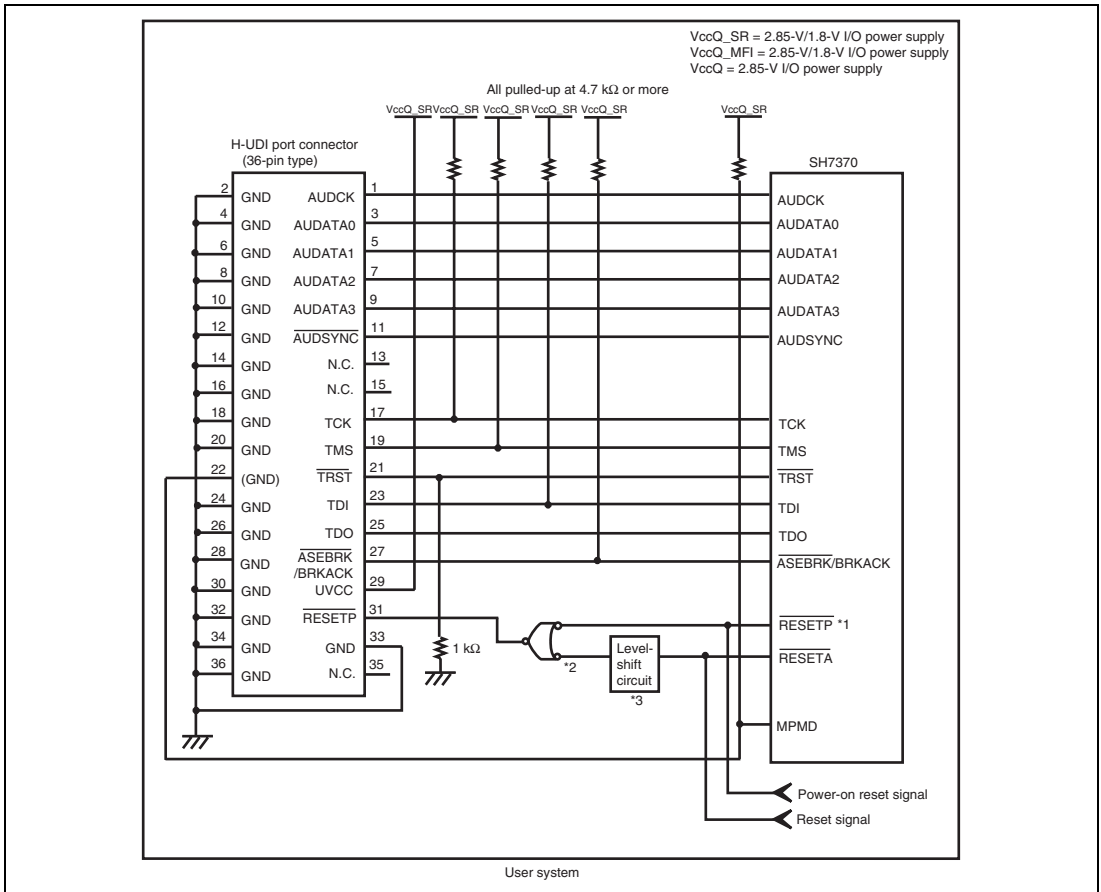

Figure 1.5 Recommended Circuit for Connection between the H-UDI Port Connector and MPU when the Emulator is in Use (36-Pin Type)
5. Connect /RESETP and /RESETA to the user system if required, as shown in figure 1.5.
Figure 1.5 shows a recommended circuit for connection between the H-UDI and AUD port connectors (36 pins) and the MPU when the emulator is in use.
- (1) When the emulator is used: MPMD = 0
- (2) When the emulator is not used: MPMD = 1Figure 1.5 shows an example of circuits that allow the MPMD pin to be GND (0) whenever the emulator is connected by using the user system interface cable.
7. The resistance values shown in figure 1.5 are for reference.
When the circuit is connected as shown in figure 1.5, the switches of the emulator are set as SW2 = 1 and SW3 = 1. For details, refer to section 3.8, Setting the DIP Switches, in the SuperH™ Family E10A-USB Emulator User's Manual.